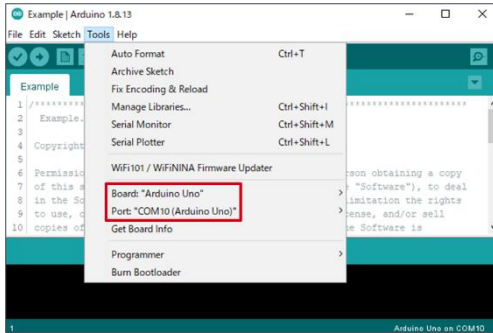

Figure 4. Board and Port Setting
1. Select [Tools]. Set Board to “Arduino Uno” and Port to “COMxx (Arduino Uno)”\*3. (Figure 4)